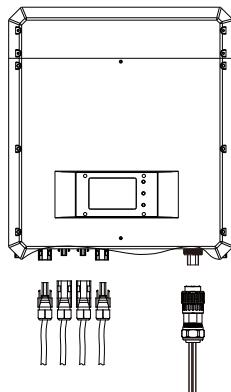
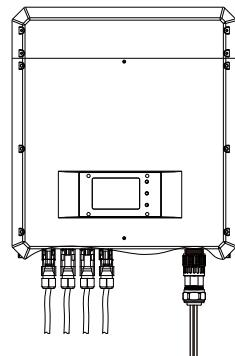

Fig.7-1
Fig.7-2
- 5) Press the right position of the terminal as Fig.7-1, When you hear a “click”, then you can pull out the positive and negative DC terminal adaptor as Fig.7-2.